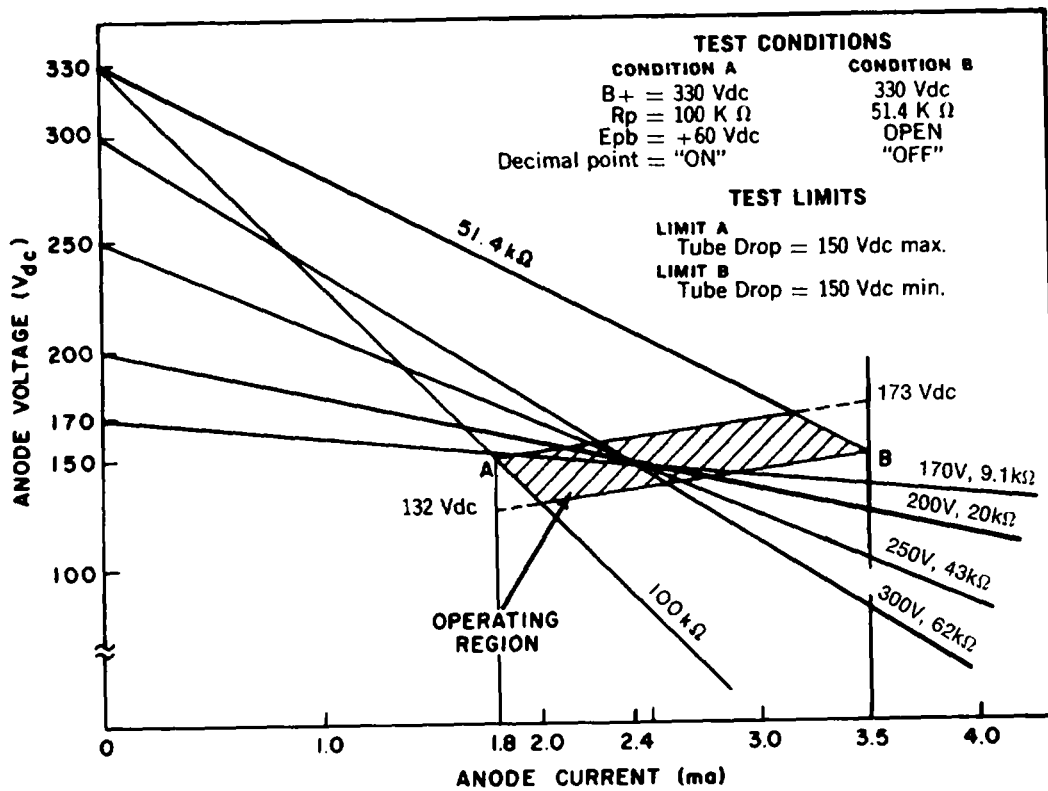

Figure 6. TUBE CHARACTERISTICS (NOTE 7)
- For proper NIXIE tube operation, a load line must pass through the operating region (shaded area) above point "A" and below point "B" in Figure 6. Operation at an anode current below point "A" can result in partial or incomplete numeral glow. Operation at an anode current above point "B" can result in not only spurious numeral glow but also shorter life. Typical load lines for 170 Vdc-10 kΩ, 200 Vdc-22 kΩ, 250 Vdc-43 kΩ, and 300 Vdc-62 kΩ are shown. The limits of the operating region were determined at the 330 V-100 kΩ, 330 V-51.4 kΩ. At these limits the tubes will exhibit an anode current within the limits of 1.8 ma min. and 3.5 ma max. These limits can be used to determine if a tube meets the specification.